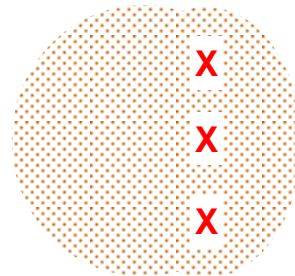

Figure 16
12. Inspector samples each mini-stockpile as follows: (See Fig. 16)